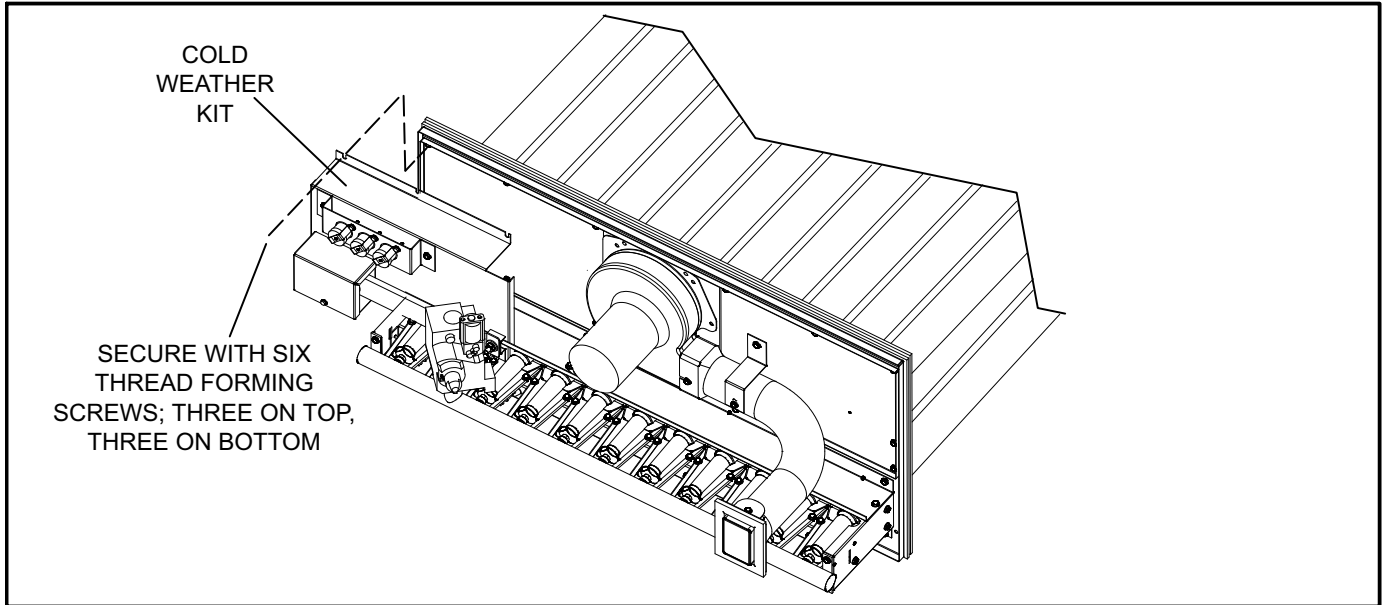

FIGURE 14
- 2- Install both cold weather assemblies as shown in figure 14. Use existing screws.
- 2- Install both cold weather assemblies as shown in figure 14. Use six thread forming screws, provided.